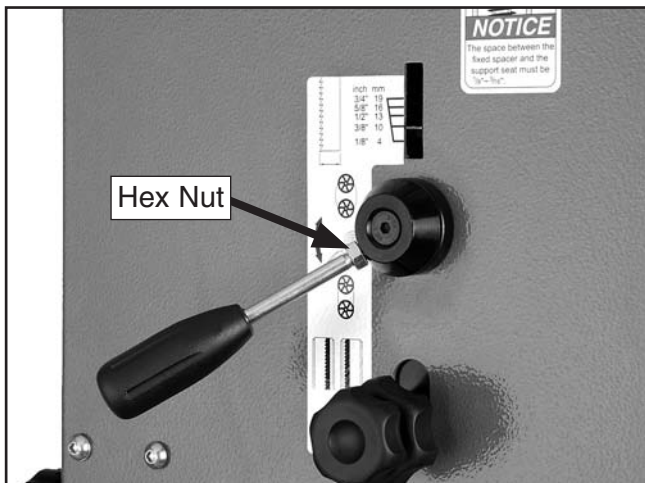

Figure 11. Quick release lever installed.
7. Thread an M8-1.25 hex nut all the way onto the quick release lever, as shown in **Figure 11**, then thread the lever into the quick release hub and tighten the hex nut against the hub to lock the lever in place.